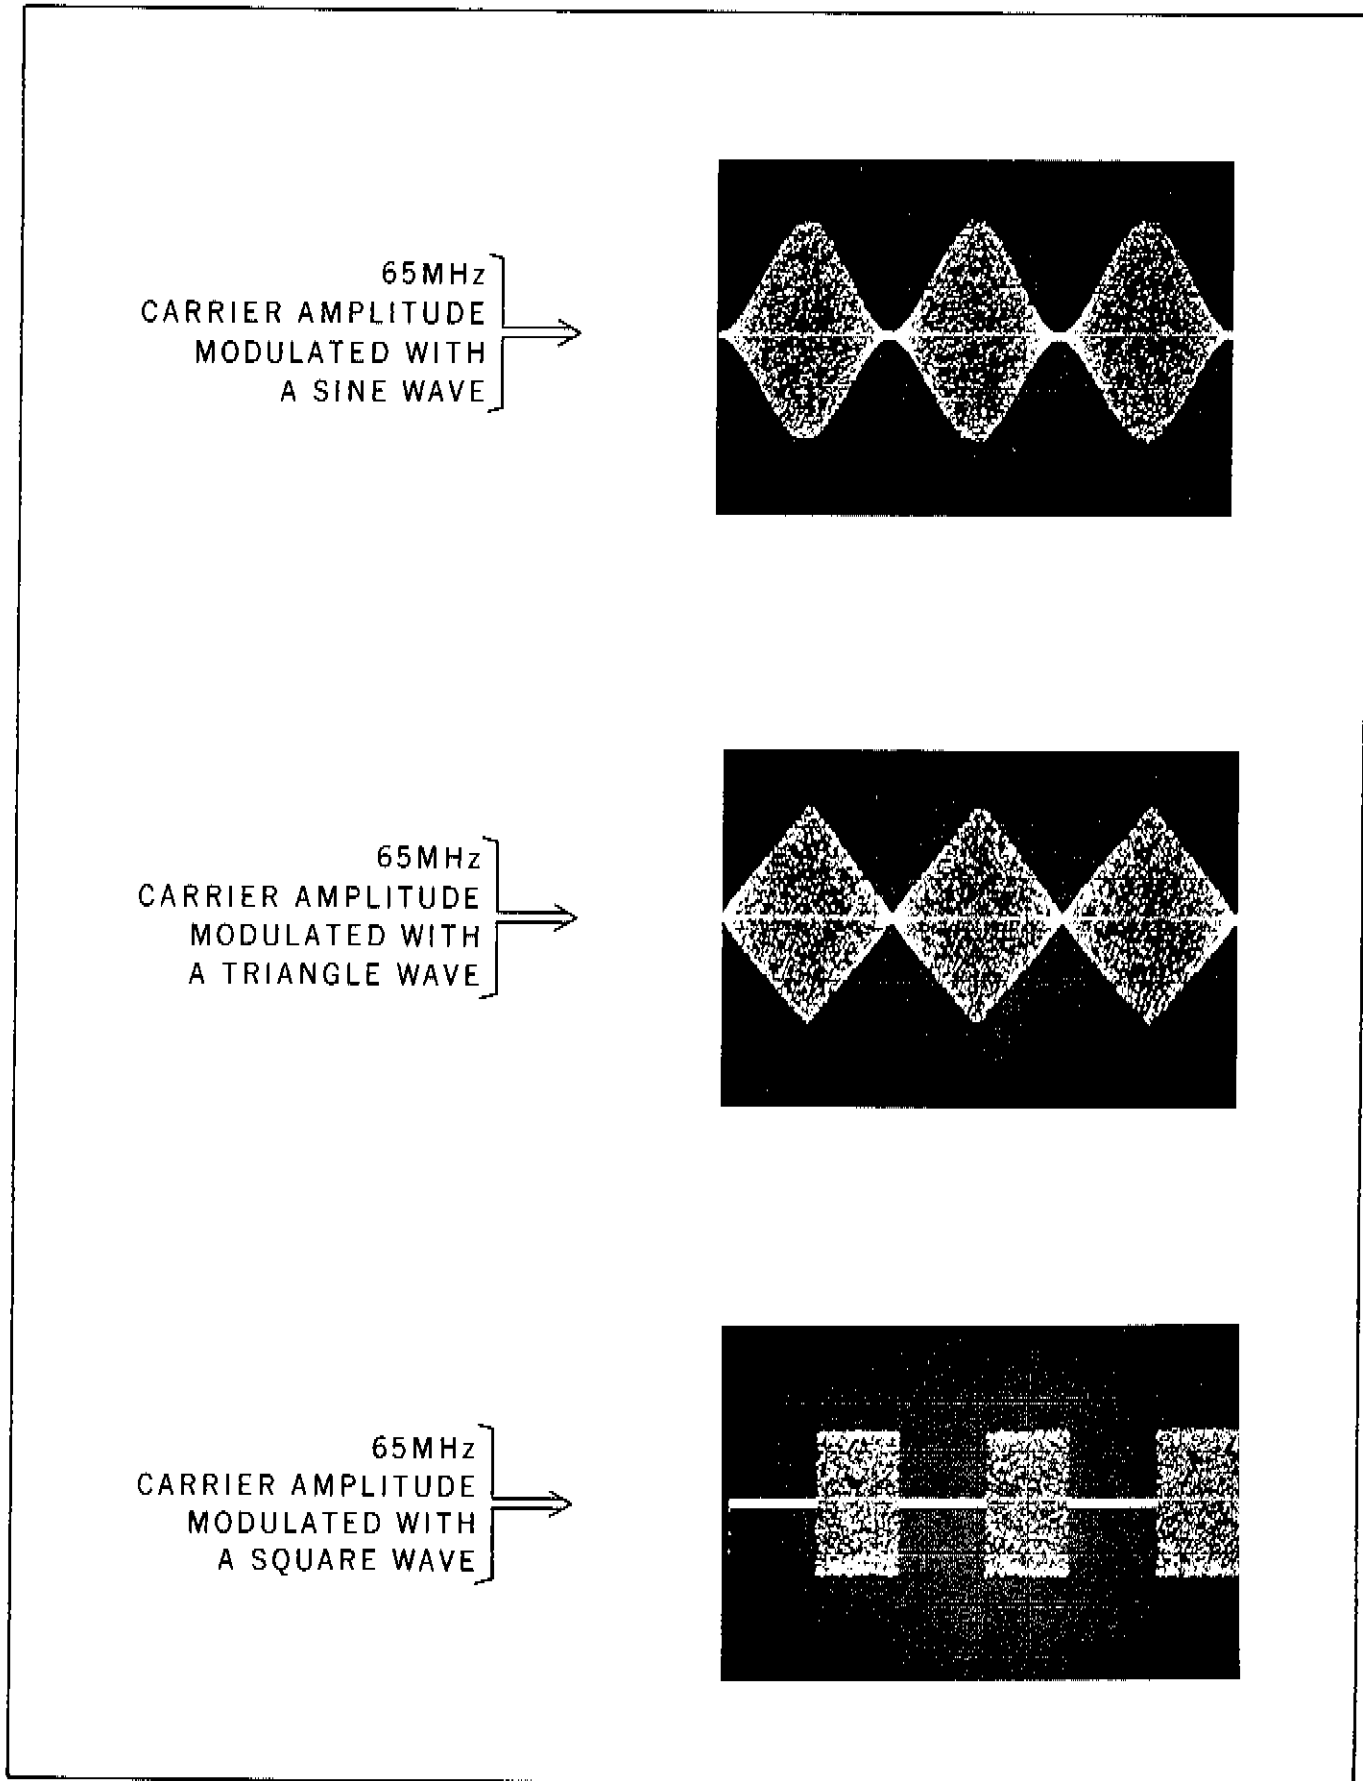

Figure 3-3. Amplitude Modulated Signals
- c. Recovering Amplitude-Modulated Signals: The SAMPLE HOLD OUTPUT may be used to monitor an AM signal with a carrier frequency within the frequency range of the 3406A, and a modulation frequency of DC to 1 kHz. Using this application hum modulation on a RF carrier may be observed. Examples of the SAMPLE HOLD OUTPUT for amplitude modulated signals are illustrated in Figure 3-3.